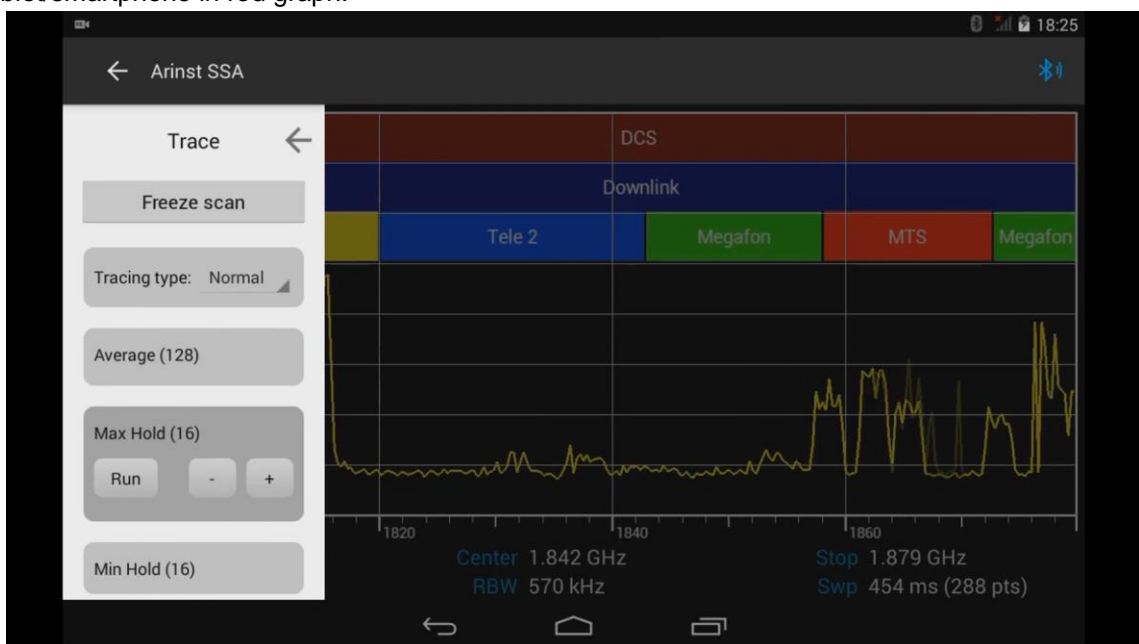

Figure 58 – Setting the number of scans to display peaks
8.9.7. **Max Hold** mode allows you to display the maximum measurement results for multiple scans. Use the "-" and "+" buttons to set the required number of scans (in the range from 4 to ∞) and press the **Run** command, figure 58. The maximum average measurement result will be displayed on the screen of the tablet/smartphone in red graph.